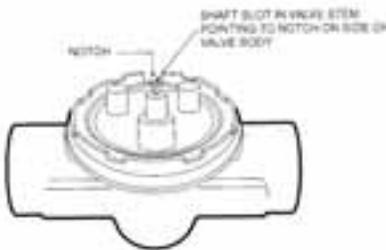

Figure 14: Preparation for soldering
- 2 Place valves on the pipe. Rotate valve stem so the shaft slot points at the notch in the side of the body (90° to flow direction). This protects the plug inside the valve by removing it from the seat, *Figure 14*.